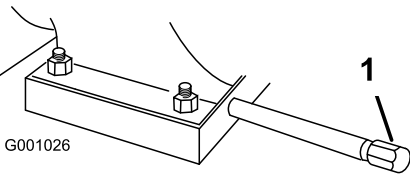

Figure 54
- 1. Clean the area around the oil drain cap (Figure 54).